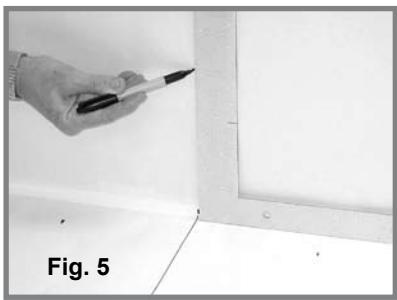

Fig. 5
STEP 5b: For through-the-wall water line and electrical wires, mark a centerline 8 inches (203 mm) up from the floor centerline (fig. 5).